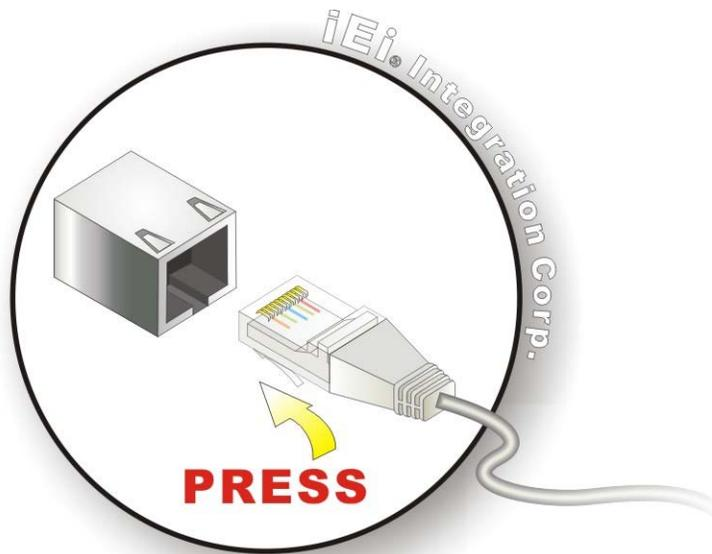

Figure 4-23: LAN Connection
Step 2: Align the connectors. Align the RJ-45 connector on the LAN cable with one of the RJ-45 connectors on the NANO-QM871-i1. See **Figure 4-23**.